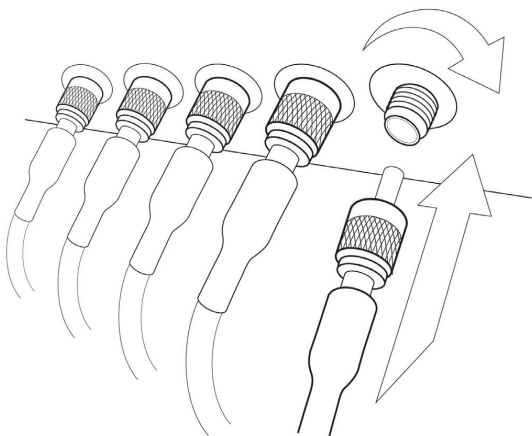

Figure 11: Connecting the plug of the optical fibers with the socket in the LASERNEEDLE Touch device
- iii. Remove the protective cap from the plug. Screw the proximal end of the optical fiber with the plug to its corresponding laser output at the back of the device. Turn the screw cap clockwise to tighten the plug (Fig. 11).